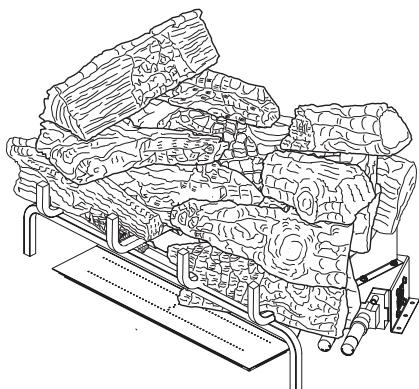

Figure 48 - Final Assembly
- Final Assembly is shown in Figure 48, page 24.